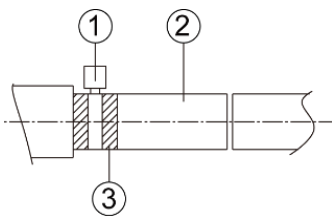

Fig10
1. Insert the drain hose into the drain hole and secure with clamp, as shown in (Fig10).
- a. metal clamp (① accessory)
- b. drain hose (② accessory)